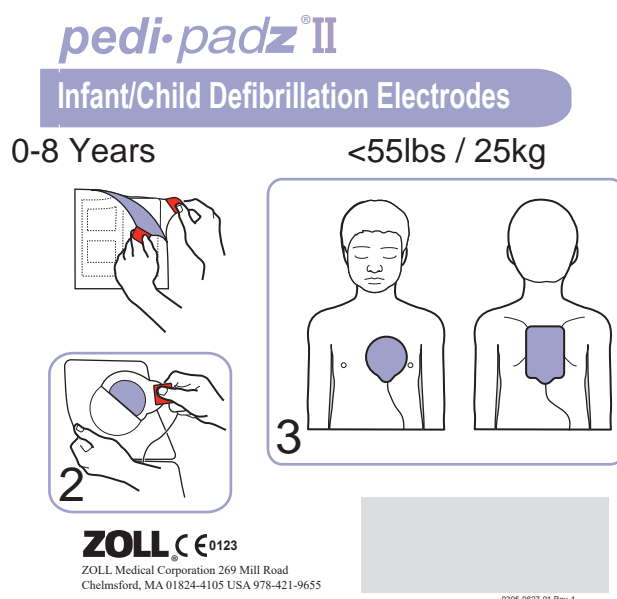

Figure 6: Placement of Pedi-padz II
1. Tear open the electrode package and unfold the inner package to expose the electrodes. Place the electrodes on the victim according to the graphics on the package (see Figure 6).
2. Remove the round electrode from its backing material and place it on the victim's chest (as shown in Figure 6).
4. Roll the victim onto his/her chest, remove the square electrode from its backing and place it on the victim's back (as shown in Figure 6).